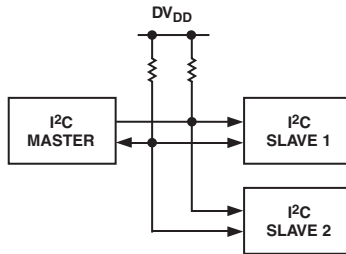

Figure 34. Typical I²C System
- An I²C master can communicate with multiple slave devices. Because each slave device has a unique 7-bit address, single master/slave relationships can exist at all times even in a multislave environment (Figure 34).